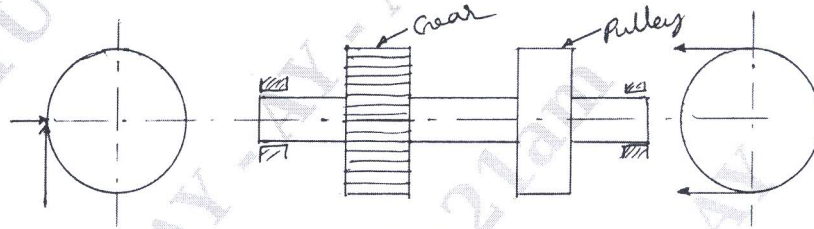

Fig.Q6
- 6 A uniform circular carbon steel shaft made of SAE 1025 annealed is mounted on two bearings 850 mm apart as shown in Fig.Q6. The shaft carries a gear A at 200 mm to the right of the left bearing and a pulley B at 250 mm to left of the right bearing. The gear is subjected to horizontal force of 3500 N and a vertical upward force of 9600 N. The pulley is driven by a belt with a tension on tight side to be 6000 N and on the slack side to be 2000 N. The shock and fatigue factors for bending and torsion as $K_m = 2$ and $K_t = 1.5$ respectively and weight of pulley to be 1500 N. Design the diameter of the shaft for yield stress taking FOS as 3. Draw neatly the sketch with loading and bending moment.